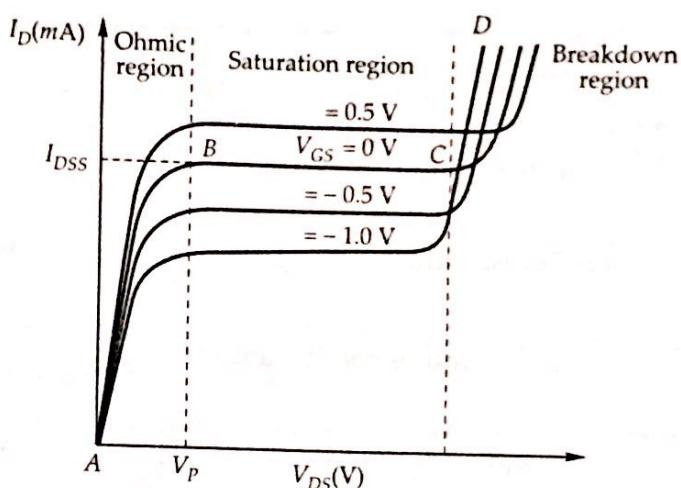

Figure 5.60 Drain characteristics of an *N*-channel JFET.
Drain characteristics of JFET ( $I_D$  vs.  $V_{DS}$ ) are plotted for different values of  $V_{GS}$  as shown in Fig. 5.60.
- When  $V_{DS}$  reaches point  $V_P$ ,  $I_D$  becomes maximum and beyond that saturation or pinchoff region occurs where  $I_D$  becomes almost independent of  $V_{DS}$ . The reason for this is as follows : As  $V_{DS}$  increases, the effective cross-sectional area of the channel decreases, resulting in increase in the channel resistance. As a result,  $I_D$  maintains a constant value. This is shown by the region BC in Fig. 5.60.